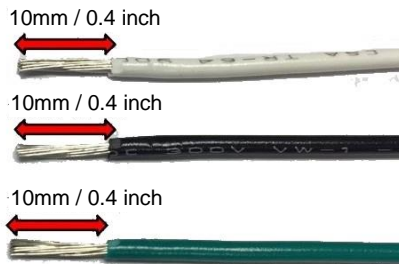

Figure 6: Back Plate of Inspire Terminal Strip after connection
9. Put the Connector Box in place and fasten the Connector Box with capacitive screw (Figure 6).